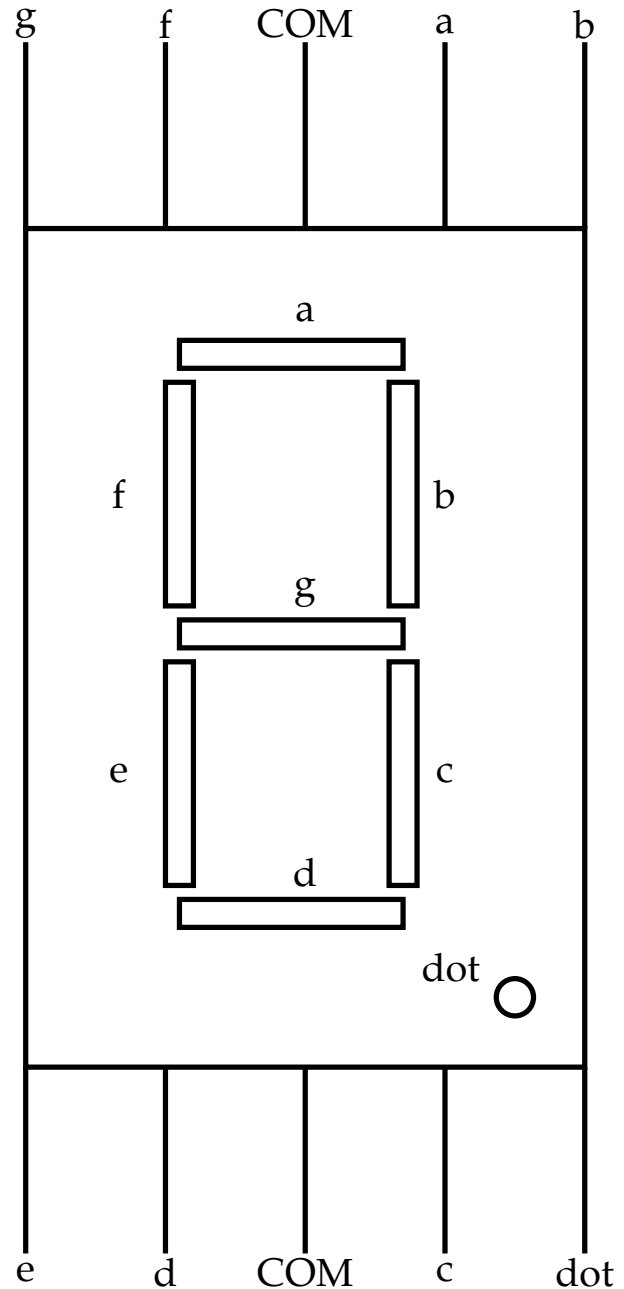
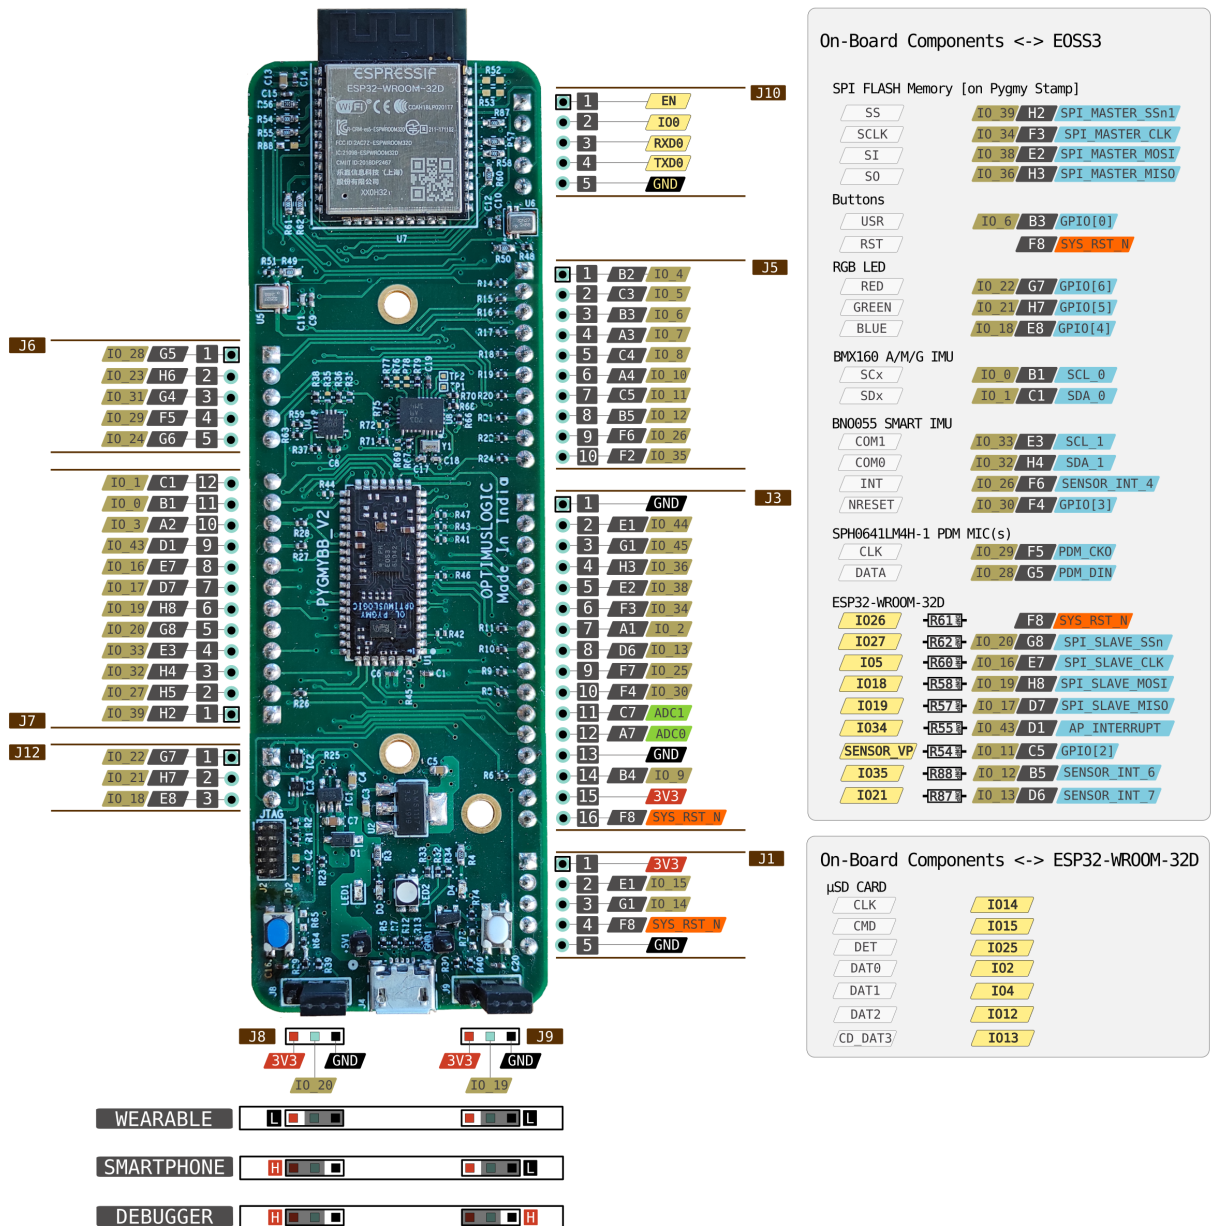

Fig. 2.1.1: Seven Segment Display
Fig. 2.1.3: Pin Diagram
2.1. Fig.2.1.3 shows all the pin banks of the pygmy. Connect the pins of the display in Fig. 2.1.1 to bank J5 of the pygmy using Table 2.1.1. The COM pin should be connected to 3.3V through a resistor.